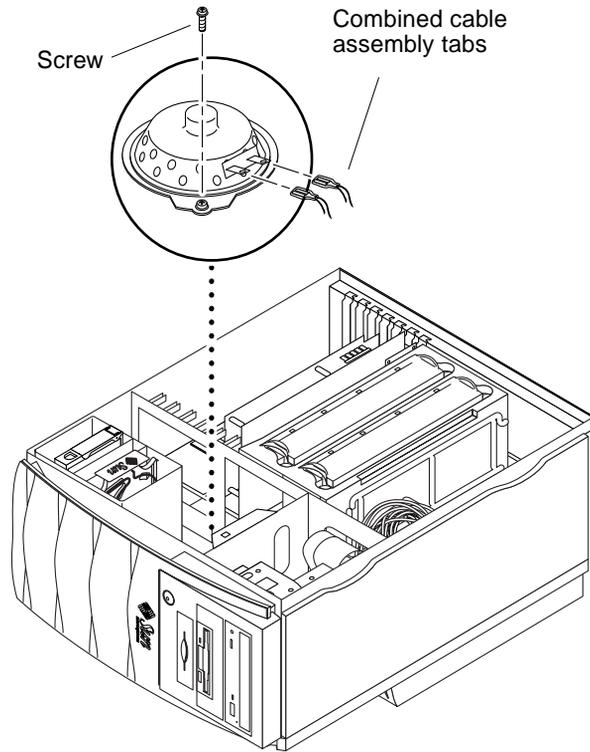

FIGURE 6-15 Removing and Replacing the Speaker Assembly
2. **Using a No. 2 Phillips screwdriver, remove the screw securing the speaker assembly to the chassis** (FIGURE 6-15).
1. **Connect the combined cable assembly connectors to the speaker assembly terminators (FIGURE 6-15).**